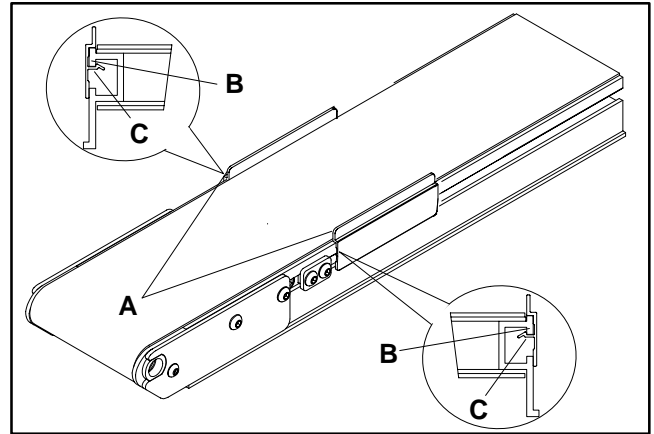

Figure 2
4. All low side conveyors without optional guiding, have factory installed belt tracking guides (A of Figure 2) installed on both ends of conveyor. Each guide is a 3.5" (89 mm) long piece of formed plastic which snaps onto the portion of the conveyor sidewall (B) above the T-slot channel.
- a. **To remove guide** from conveyor sidewall, apply a slight outward and downward finger-pressure on one top corner of guide and gradually peel it off conveyor sidewall (B).
- b. **To install guide** onto conveyor sidewall, first place lower lip (C) of guide against upper edge of conveyor sidewall T-slot channel. Apply inward and upward pressure to completely snap it into place.
NOTE: Use belt tracking guides (A of Figure 2) during initial conveyor start-up for tracking conveyor belt, as necessary. Guides may be left on or removed, after start-up. Be sure to save belt tracking guides for start-up after belt cleaning or replacement.
2. If not already installed, install belt tracking guides on both ends of low side conveyors. Refer to Figure 2 on page 3.